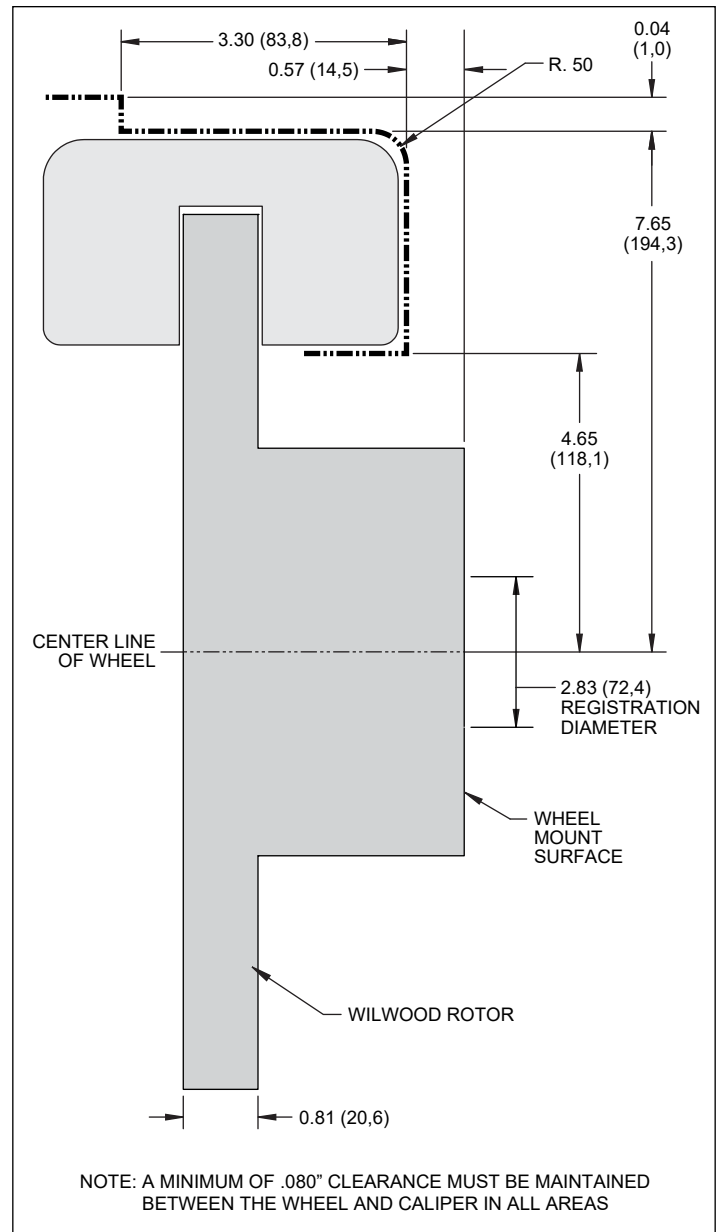

Figure 2. Wheel Clearance Diagram
- Review the Wheel Clearance Diagram (Figure 2, page 4) to verify that there is adequate clearance with the wheels you will be using with the installation.
•Verify your wheel clearance using Figure 2.